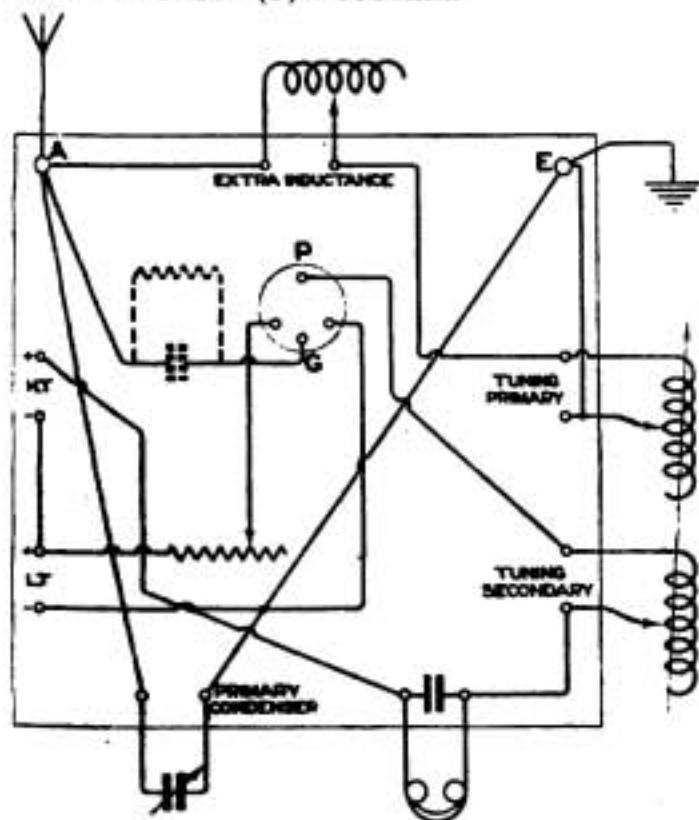

Fig. 1.
(1) See diagram (Fig. 1). (2) The two coils mentioned may be wound with No. 26, the 5" coil being used as tuner primary and the 4" loading coil. Tuner secondary may be a reaction coil; 6" x 4" of No. 30. (3) 0.001 mfd.